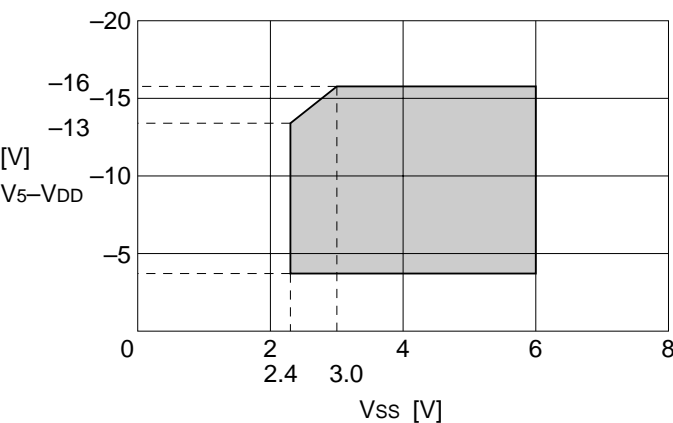

Figure 11
- *2. The operating voltage range of the V_{SS} and V₅ systems (see Figure 11). The operating voltage range is applied if an external power supply is used.
- *3. Pins A0, D0 to D7, \overline{RD} (E), \overline{WR} (R/ \overline{W}), $\overline{CS1}$, CS2, FR, SYNC, M/S, C86, SI, P/S, T1 and T2.
- *6. Pins A0, \overline{RD} (E), \overline{WR} (R/ \overline{W}), $\overline{CS1}$, CS2, CL, M/S, \overline{RES} , C86, SI, SCL, P/S, T1, and T2.
- *8. The resistance when the 0.1-volt voltage is applied between the “On” output terminal and each power terminal (V1, V2, V3 or V4). It must be within the operating voltage (2).